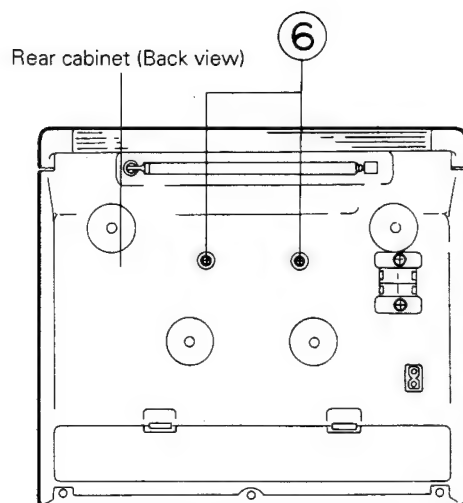

Fig. 5-8
■ **CD traverse mechanism assembly** (Refer to Fig. 5-8, 5-9.)
3. Remove two screws ⑥ retaining the CD traverse mechanism assembly from the back of the rear cabinet.